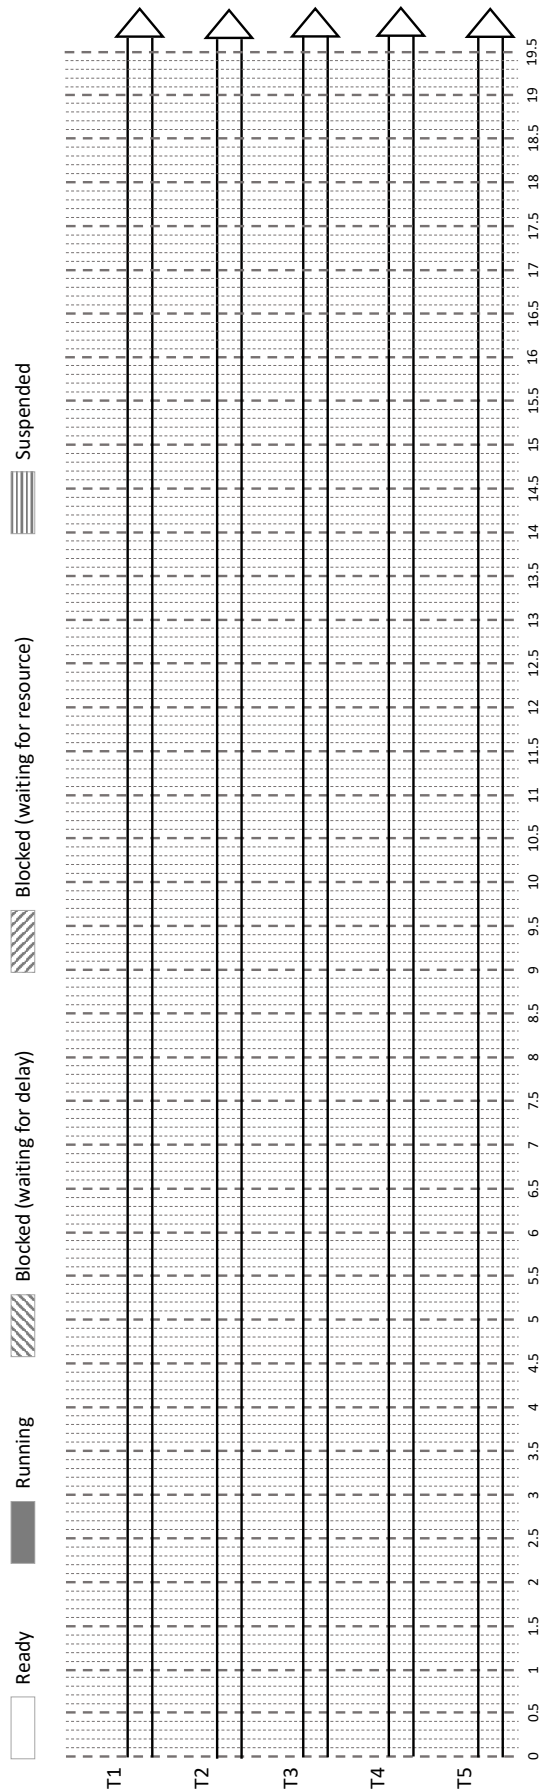

FIGURE 1.1 – FCFS (First Come First Serve) trace.
1. FCFS (First Come First Serve), the order of arrival being T_1, T_2, T_3, T_4, T_5 (cf figure 1.1).